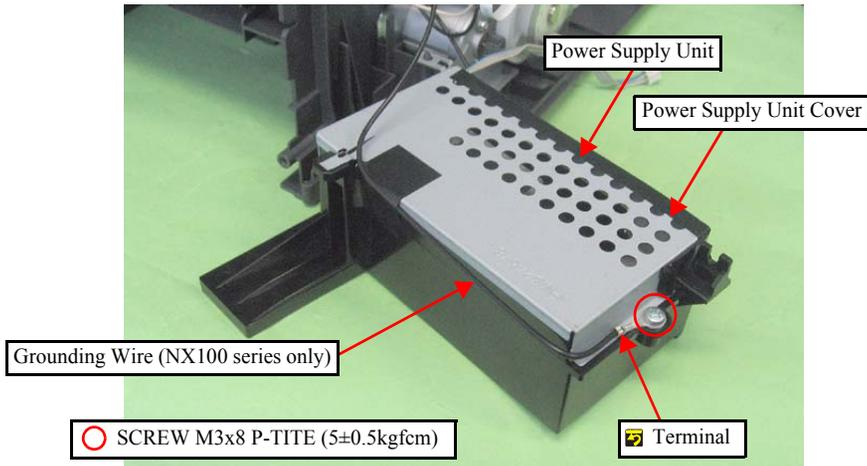

Figure 4-25. Removing the Power Supply Unit
- When installing the Grounding Wire, make sure that the terminal of the Grounding Wire gets contact with the plate of the Power Supply Unit, and secure it together with the Power Supply Unit as shown in Fig.4-25. (NX100 series only.)